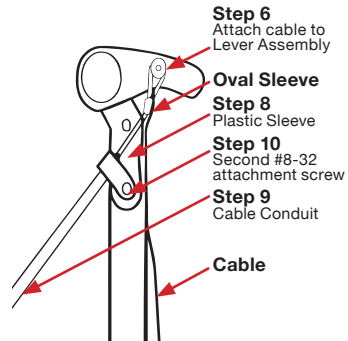

Figure 2
7 Attach the cable loop to the Lever Assembly using the shoulder screw (Item #15) provided (see Figure 2).
8 Slide the (2) clear outer sheaths (Item #3) onto each end of the cable until they stop on the Oval Sleeve near the loop end of the cable (see Figure 2).
9 Slide the medial (longer) side of the cable through the cable conduit until the cap of the leading end contacts the clear outer sheath (see Figure 2).
10 Locate and attach the cable conduit to the lever using the plastic cable clamps and the second #8-32 screw as shown. Rotate the cable clamp so that the cable slides free in the cable conduit and does not rub against the conduit end caps. (see Figure 2)